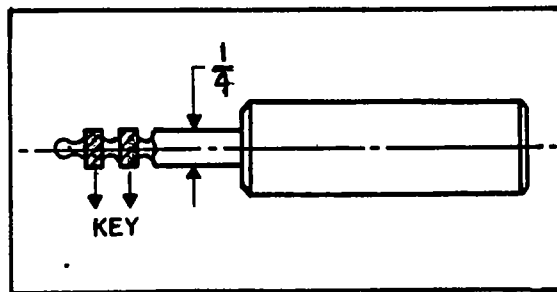

FIGURE 11. KEY CONNECTION
- g. For CW operation plug key into jack J3 at the rear of the unit, refer to *figure 11* for the wiring of the key connection.